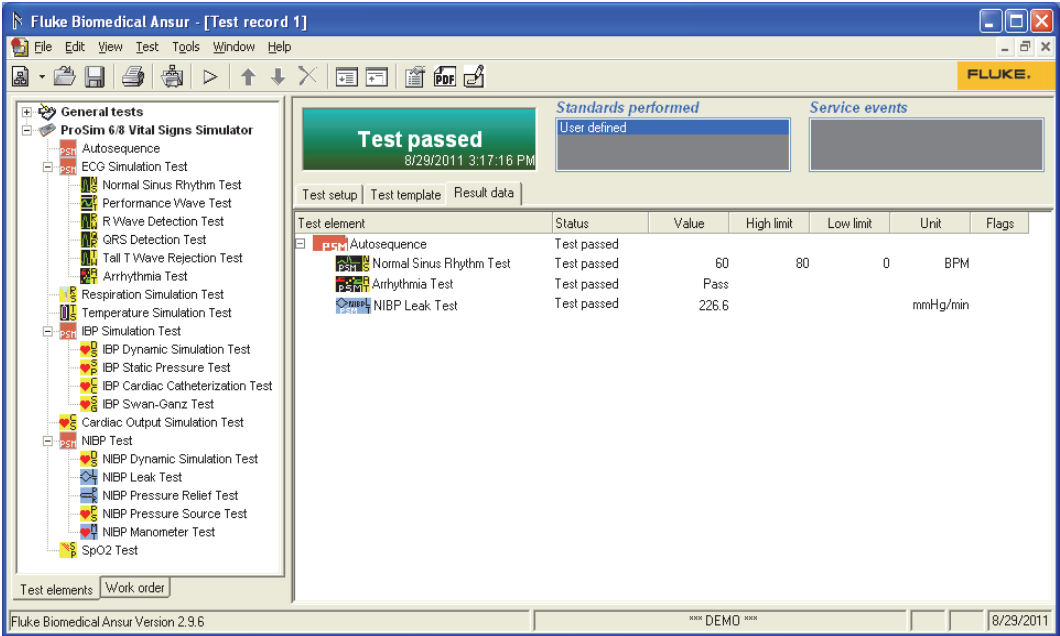

Figure 3-16. Test Results after Autosequence
11. Click  to show the test results file shown in Figure 3-16.